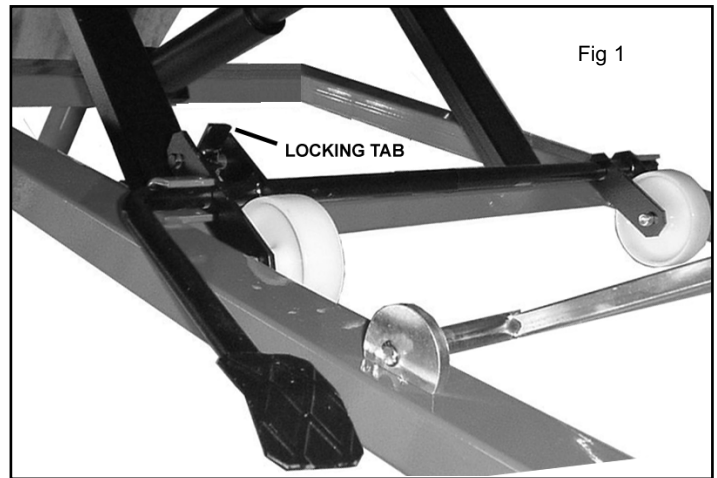

Fig 1
- 4.2.3. Fit the wheel assembly into the brackets on the frame, as shown in fig. 1.